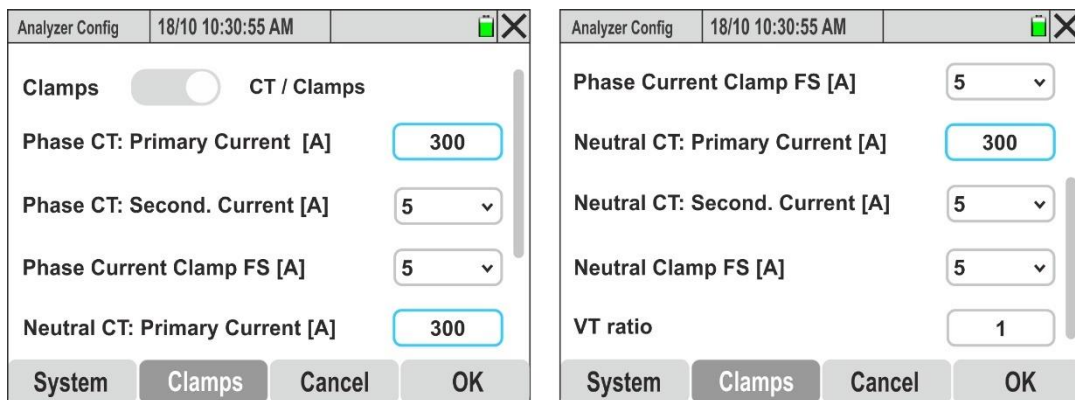

Fig. 23: External CTs current parameter settings (3-phase 4-wire system)
1. Select the "**Clamps**" item. The display of the instrument shows the following screen, whose entries **may vary** according to the type of system selected. The example of a three-phase four-wire system is shown in Fig. 23
5. Open the drop-down menu "∨" corresponding to the "**Phase CT: Second. Current [A]**" by selecting from the options: **1A** or **5A** (in the case shown in Fig. 23, a CT with a 300A/5A ratio was set)
9. Open the drop-down menu "✓" corresponding to the "**Neutral CT: Second. Current [A]**" field by selecting from the options: **1A** or **5A** (in the case shown in Fig. 23, a CT with a 300A/5A ratio was set)
11. Touch the "**VT ratio**" field to set the transformation ratio of any voltage transformers (VT) present in the system in question in order to obtain correct readings associated with the primary circuit of the transformers themselves. The following screen will appear on the display: